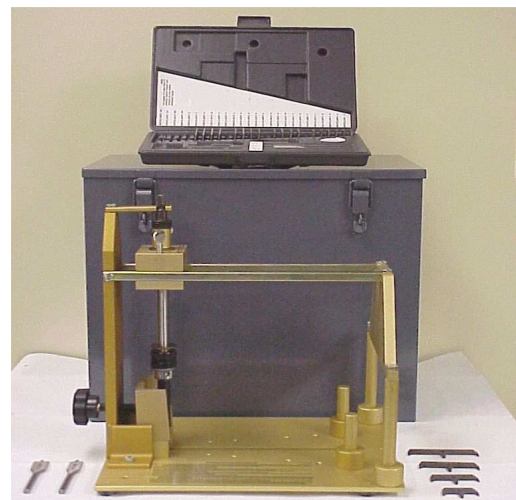

Figure 1D
5.1 See **Fig. 1A through Fig. 1D** for DE09SPC (shown) and DE12SPC Splice Case Kits.